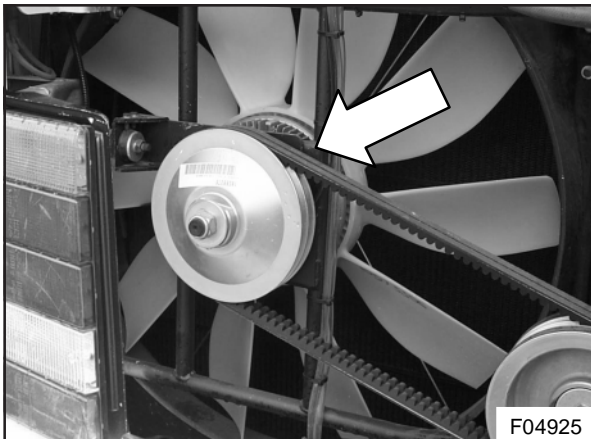
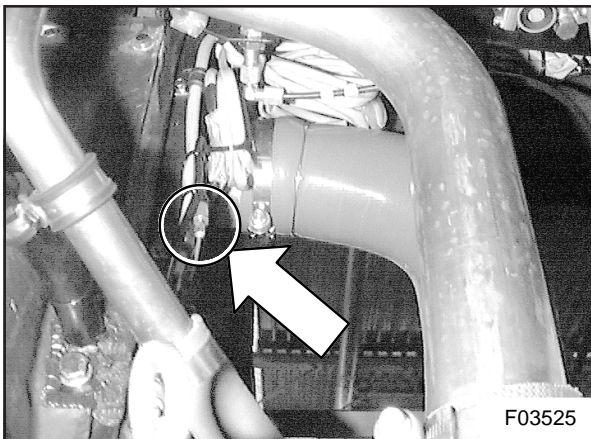

Figure 5 : Early style fan clutch as found on T900 and T2100 coaches
Figure 6 : Location of fan clutch connector
6. On coaches equipped with the early style fan clutch (see Figure 5), cut loose the fan clutch connector, which is tied to the radiator shroud (see Figure 6).